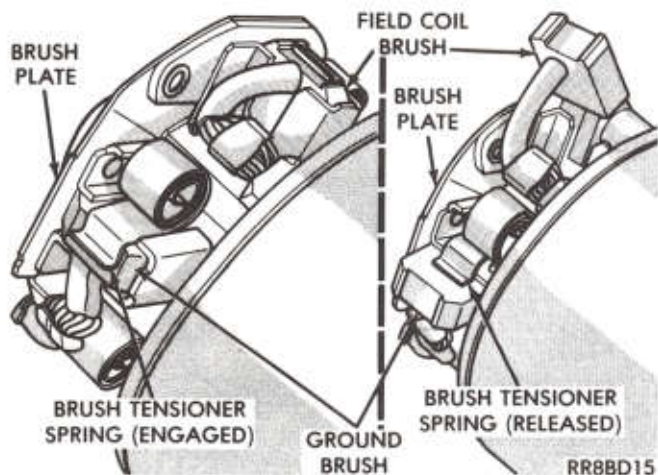

Fig. 10—Remove or Install Field and Ground Brushes
(9) Slide brush tensioner springs to the side and remove brushes from brush plate (Fig. 10)